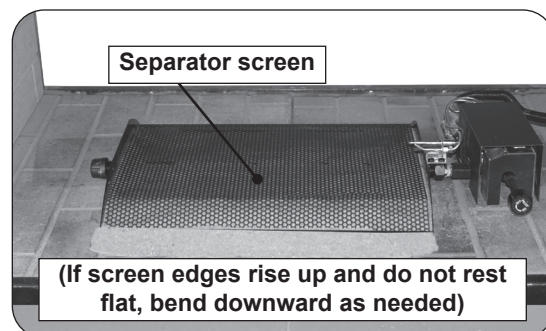
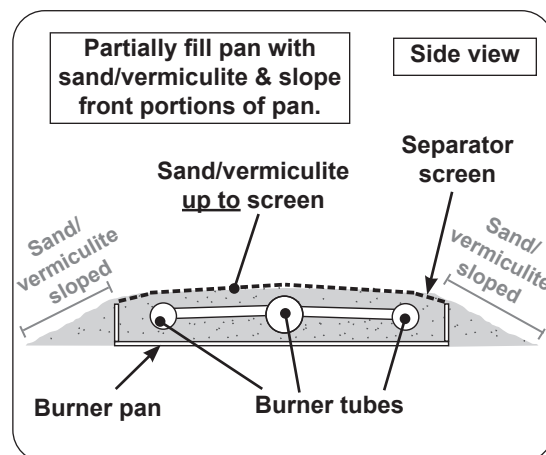

Fig. 21-2 Place screen
Fig. 21-3 Sand/vermiculite & screen detail
- Slope the sand/vermiculite in the front portions of the pan (see Fig. 21-3).
2. Place the separator screen over the sand/vermiculite and pan. The screen edges will rest just over the edges of the burner pan as shown in Fig. 21-2 and Fig. 21-3. If the screen edges rise up from the floor of the pan, bend them downward as needed.
3. Once the screen is in place add or remove sand/vermiculite until it rests at the level right below the screen (see Fig. 21-3). **DO NOT** underfill or overfill.